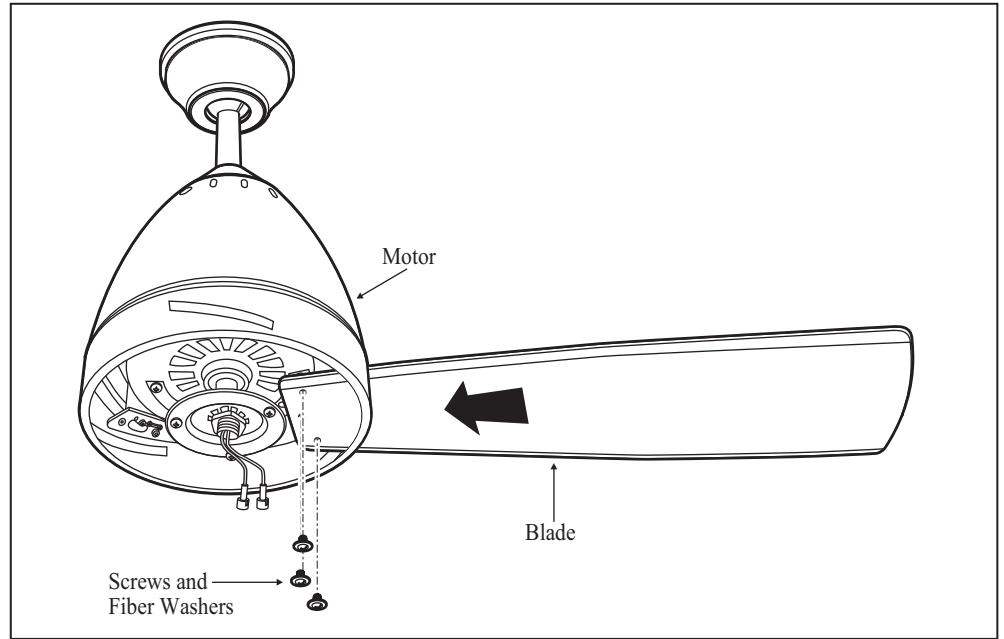

Figure 19
1. Insert the blade through the slot in the motor housing. Align the holes in the blade and the fan motor assembly and secure the blade in place with screws and fiber washer provided. (Fig. 19)